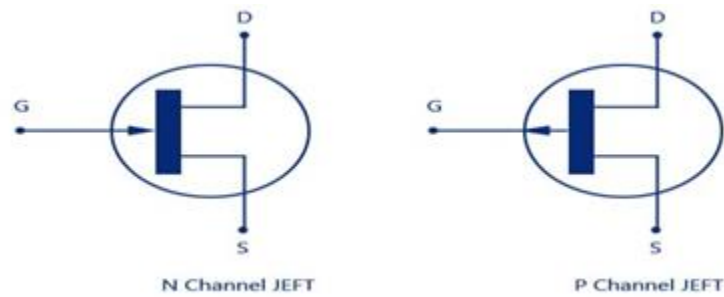

Fig. 4.1 Symbols of N - channel and P- channel JFET
- It has three terminals namely Source (S), Drain (D) and Gate (G).
- The symbol of N-channel and P-channel JFETs are shown in the figure 4.1.